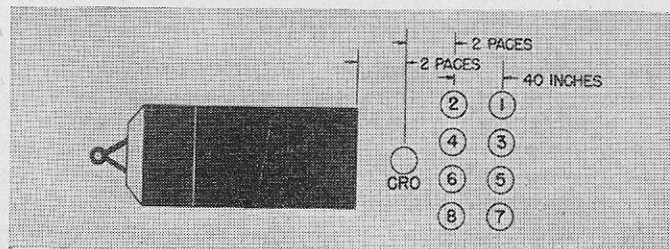

FIGURE 53.—Positions at command FALL IN.
■ 52. FALL IN.—Command is given by CRO. The section takes the positions indicated in figure 53.